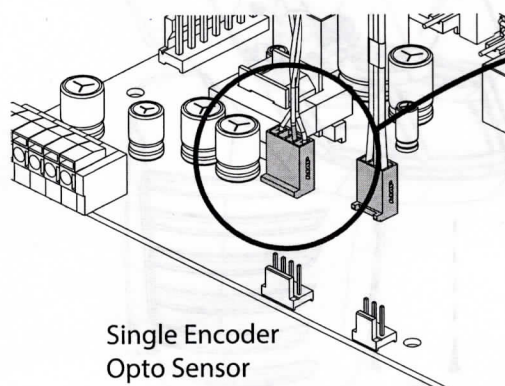

FIG.5.
- Note:** Be certain to install all harnesses in the correct position being sure to install with locking tabs facing each other. FIG 5.